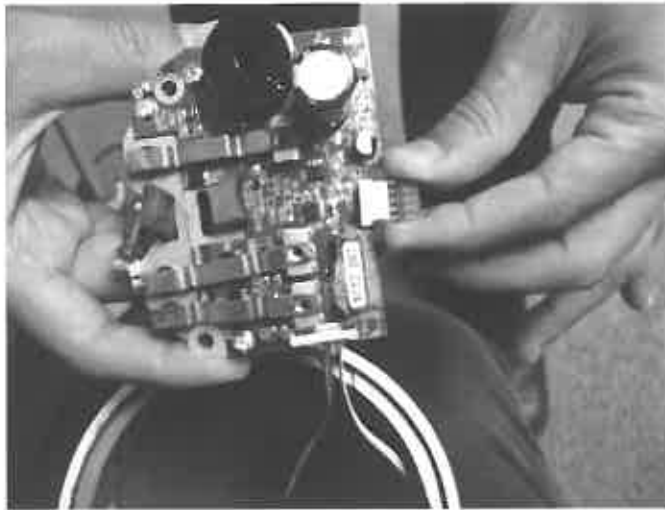

Fig. 4
- c.) With the slip ring assembly removed, use a 1/4" socket or nut driver to remove the two screws holding the circuit to the body casting. These are the screws on the left and right side of the solid metal rectifier (item 13 on exploded view).
9. Carefully remove the circuit from the body as it is still connected by ribbon cable to the potentiometer and LED light. See Fig. 4
10. Unclip the ribbon cable from the circuit. See Fig. 4